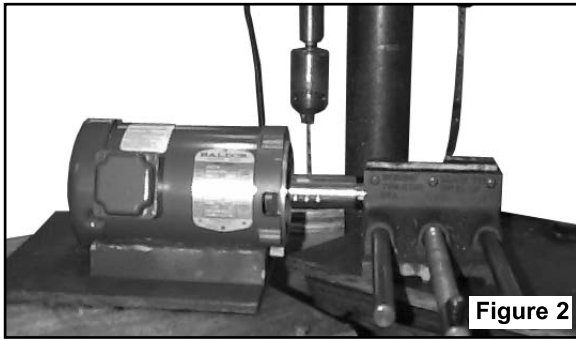

Figure 2
9. Pry off rotating member of mechanical seal from sleeve by using two (2) screwdrivers. (Figure 2)
- D.) Insert #12 drill in stub shaft pilot hole and drill completely through motor shaft and opposite side of stub shaft. See Figure 2.